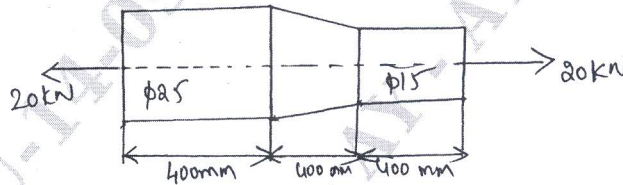

Fig.Q1(b)
- Find the extension of the bar shown in Fig.Q1(b) under axial load of 20 kN, $E = 200 \text{ GN/m}^2$.